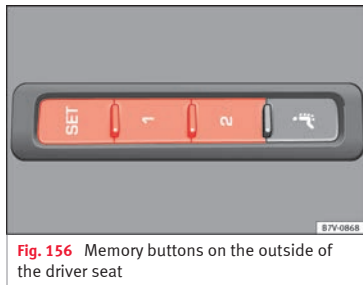

Fig. 156 Memory buttons on the outside of the driver seat
- Keep the **SET** button held down for more than one second »» **Fig. 156**.